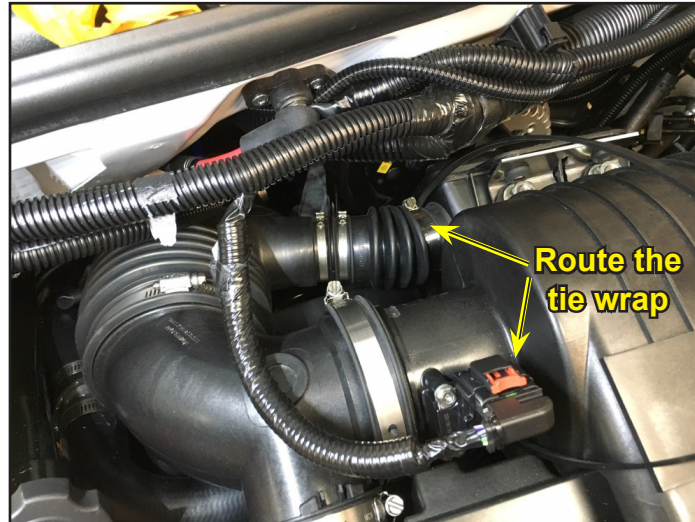

Figure 43. Route Tie Wrap Around Hose and Inlet
5. Route the large tie wrap between the air intake unit and MAF sensor as seen in Figure 43.